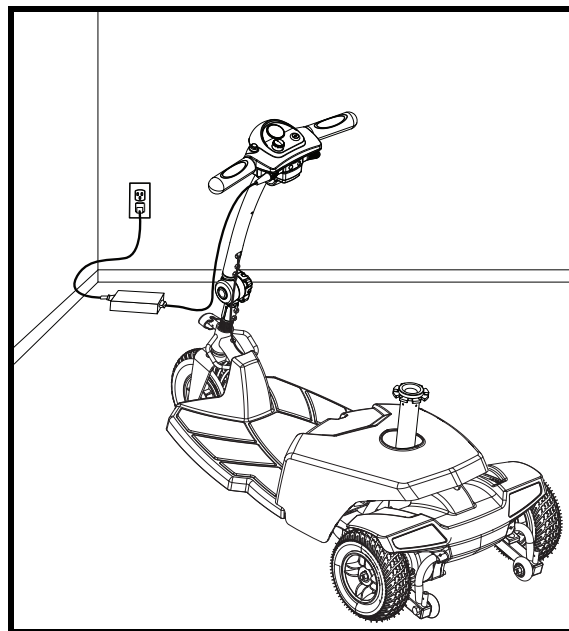

Figure 14. Charging The Batteries
1. Position your Travel Scooter close to a standard electrical outlet. **See figure 14.**